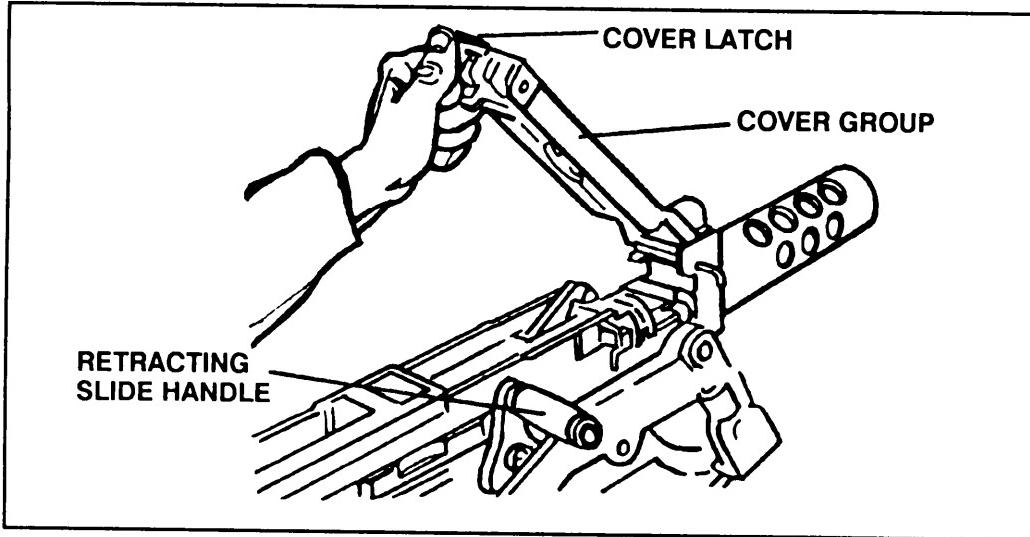
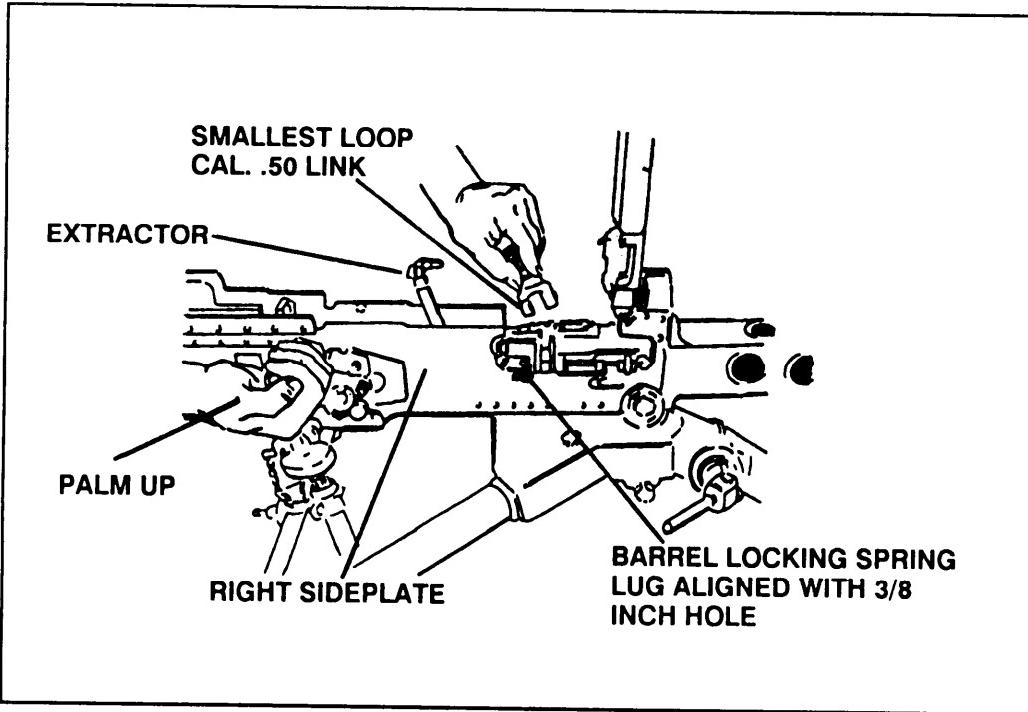
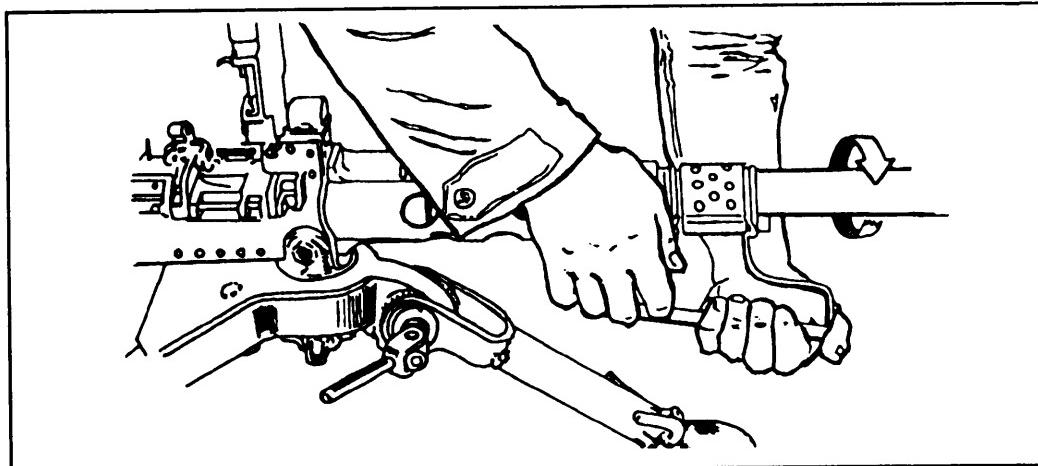

Figure 2-3. Raising the cover.
Figure 2-4. Aligning the lug on the barrel locking spring with the 3/8-inch hole in the right sideplate.
Figure 2-5. Removing the barrel.
- Barrel Group.** Turn the cover latch and raise the cover group (Figure 2-3). Grasp the retracting slide handle with the right hand, palm up, and pull the recoiling parts to the rear until the lug on the barrel locking spring aligns with the 3/8-inch hole in the right sideplate of the receiver (just below the feedway exit). The barrel can be turned only when the lug is aligned with the 3/8-inch hole. Place the smallest loop of a caliber .50 link, or suitable spacer, between the trunnion block and the barrel extension (Figure 2-4). This holds the barrel locking spring lug aligned with the 3/8-inch hole in the right sideplate. Unscrew the barrel from the receiver (Figure 2-5, page 2-4). Be careful not to damage the